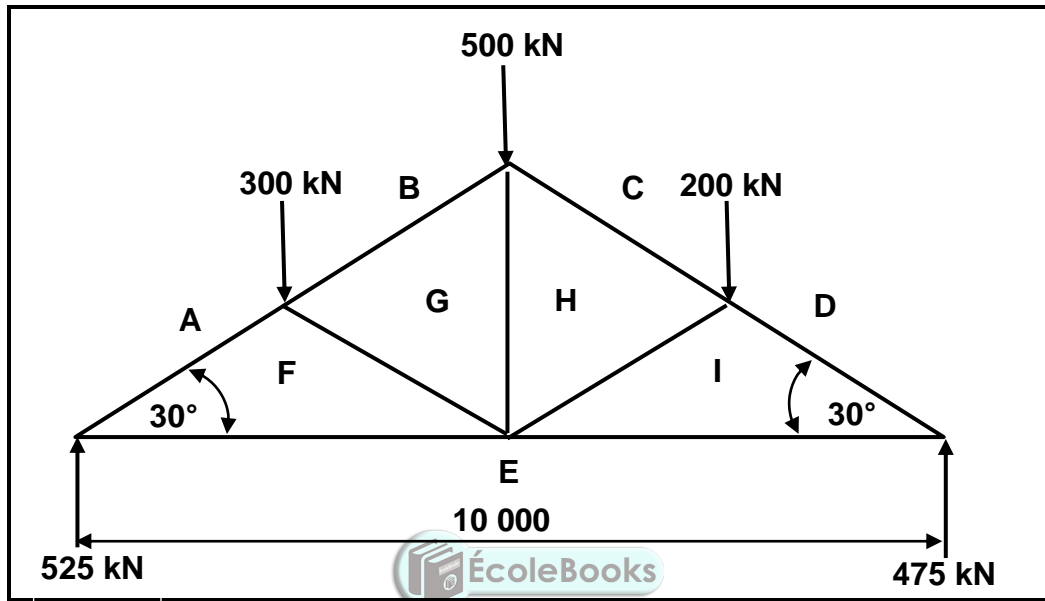

FIGURE 7.1
7.1 FIGURE 7.1 below shows a steel framework. Answer the questions that follows.
- 7.1.1 Determine graphically the force vector diagram of FIGURE 7.1 using scale 1 mm = 10 kN. (Redraw the space diagram and use scale 1 : 100.) (10)
- 7.1.2 Determine the magnitude and nature of the members, as shown in FIGURE 7.1. (18)